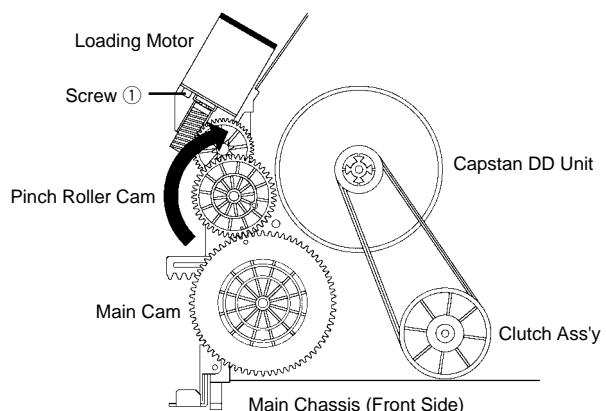

Fig.2
**(Refer to item 1 of the DISASSEMBLY INSTRUCTIONS.)**
2. Remove the screw ① of the Deck Chassis and remove the Loading Motor.
**(Refer to Fig. 2)**